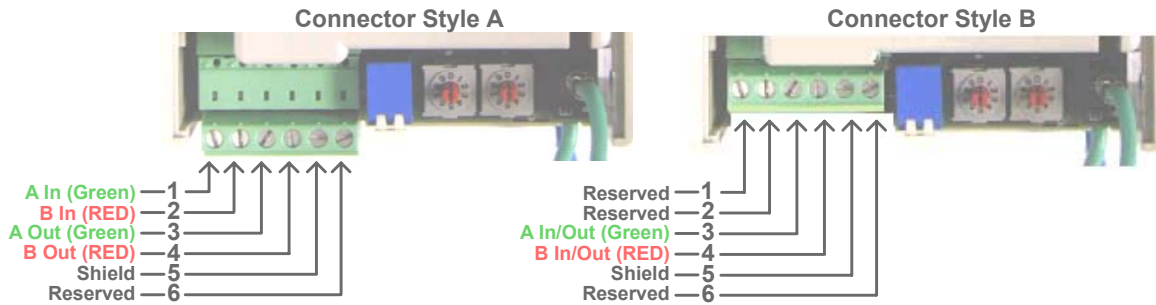

Figure 1.4 – V7 PROFIBUS-DP Option Connections
- 5:** Connect the V7 to the PROFIBUS-DP communication network. Refer to **Figure 1.4 – V7 PROFIBUS-DP Option Connections** and **Table 1.3 – PROFIBUS-DP Cable Connections**
- Connect the PROFIBUS-DP network cable to the *V7 PROFIBUS-DP Option*. Refer to the appropriate connection drawing in Figure 1.4 below for your connector style.